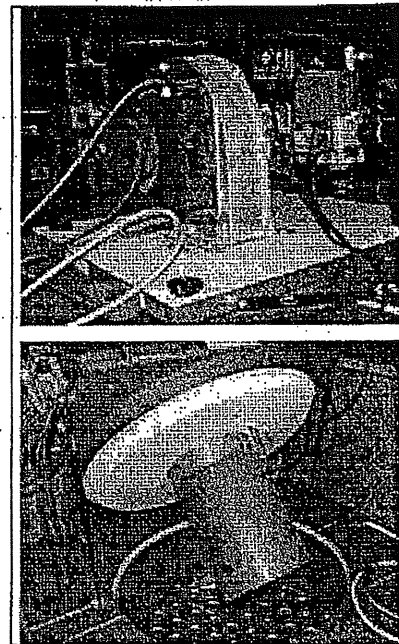

Figure 1-4
2. The Burner (See Figure 1-4)